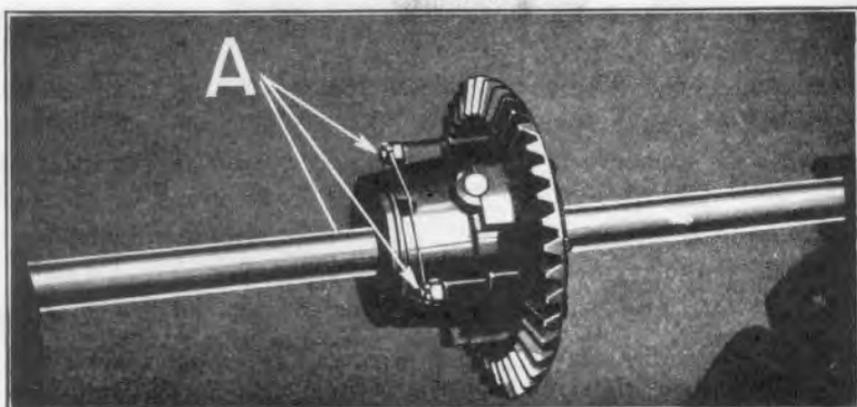

Fig. 349
- 607 The assembly should now be tested to see that it revolves freely; this can be done by holding one axle shaft stationary in the axle stand and turning the opposite shaft with the hand. If assembly revolves freely, wire the three differential case bolts together (See "A" Fig. 349).